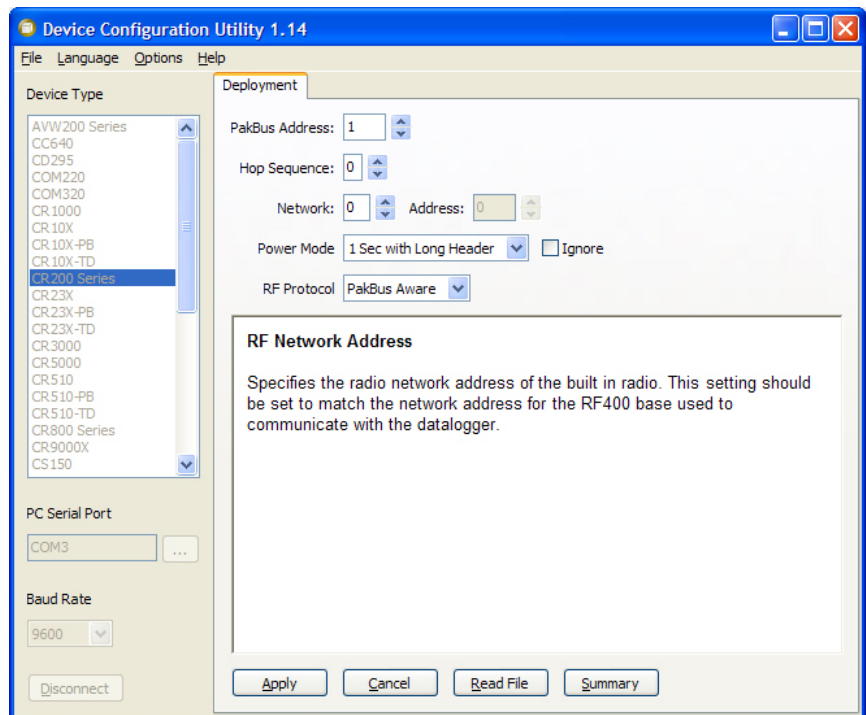

FIGURE D-4. DevConfig Deployment panel showing the CR206(X) setup for Example 1.
CR206(X) Setup for Example 1 (see FIGURE D-4):